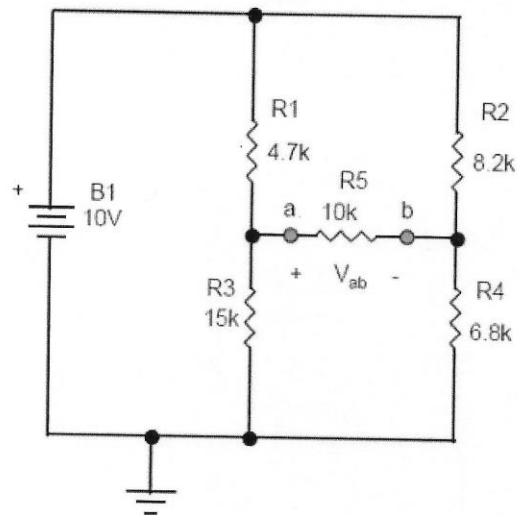

Figure 1. Test Circuit for Part 1 of the Experiment.
- Construct the circuit shown in Figure 1 and measure the voltage, V_{ab} , across the $10 k\Omega$ resistor. Record the value of V_{ab} for future use in Table 1 but it is also important to use a DC power supply for the battery.
- Remove the 10 k Ω resistor from the circuit in Figure 1 and measure the Thevenin's open circuit voltage, V_{oc} , for the remaining circuit. Figure 2 shows the circuit used to make the open circuit voltage measurements.
Table 1- Figure 1 Circuit
Finding V_{oc} (Figure 1)